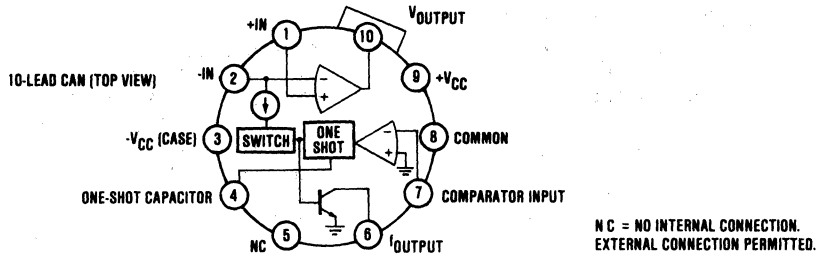

FIGURE 1. Terminal Connections and Functional Schematic Circuit.
3.2.8 Circuit diagram and terminal connections. The circuit diagram and terminal connections are shown in Figure 1.
3.2.9 Schematic circuit. The functional schematic circuit is shown in Figure 1.